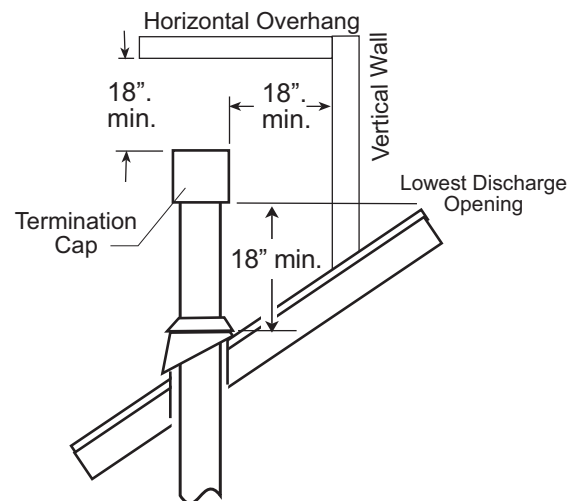

Figure 15.
- **Vent Terminus Clearance:** In no case shall any discharge opening on the cap be less than 18 in. (457 mm) horizontally from the roof surface. See fig. 15.